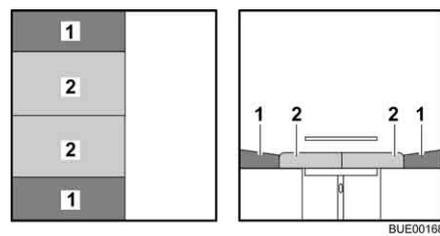

Fig. 85 After conversion
- Pull the seat cushions (Fig. 85,2) into the centre.
- Insert the back cushions (Fig. 85,1) between the seat cushions and the wall.